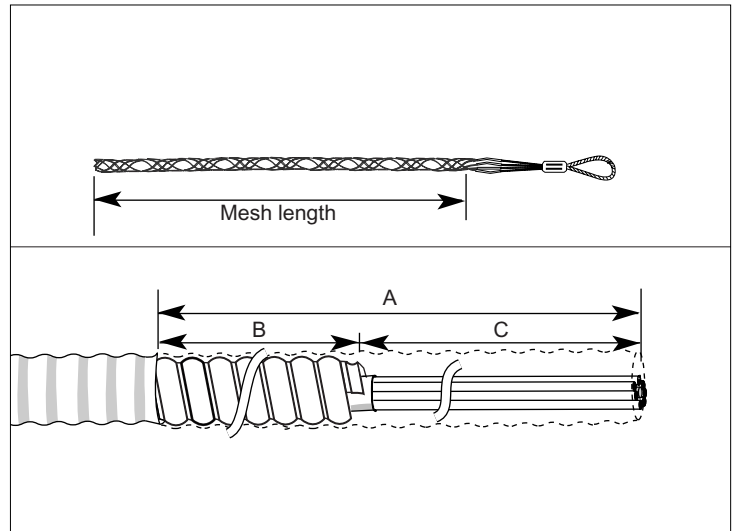

Figure 4 — Outer jacket marking lengths
Step 6: Table 2 and Figure 4 indicate the outer jacket strip length (A), exposed armor length (B), and exposed cable core length (C) required for each grip installation.